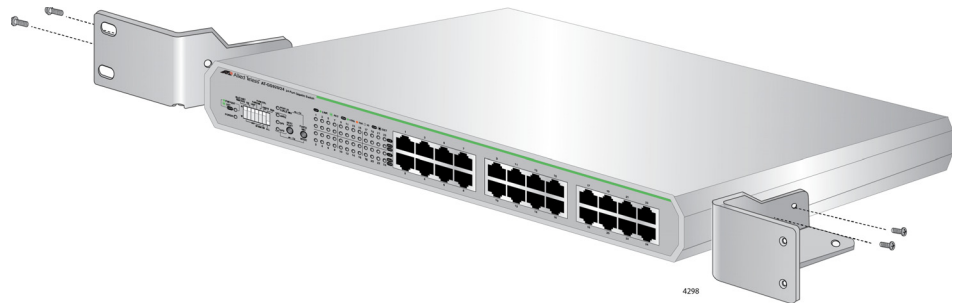

Figure 13. Attaching the Brackets to the AT-GS920/24 Switch
4. Orient the brackets against the sides of the switch and secure them to the switch with the four screws provided as shown in Figure 13.